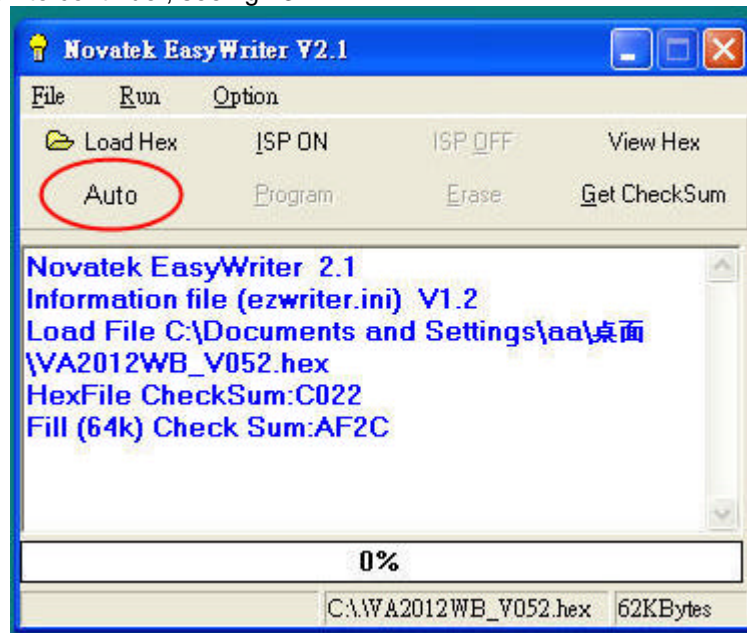

Fig. 2.3
2.3 press “ Auto “ button to continue , see fig2.3